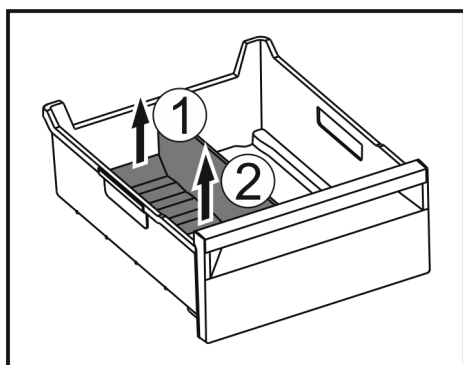

Fig. 67
- Lift the rear part of the ice compartment divider. Fig. 67 (1)
- Remove the ice compartment divider upwards. Fig. 67 (2)